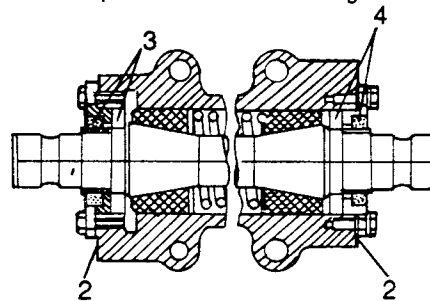

Fig L5.16
- (13) Refer to Fig L5.16. Smear general purpose grease on both sides of the joint washers (2) and fit one to each end of the housing.
- (14) Fit the thrust washer and end cover (3) complete with seal to the bottom end of the housing only. Use 'Wellseal' or a suitable equivalent sealing compound on the threads of the bolt fitted to the breather hole.
- (15) Fill the housing with the correct grade of oil.
- (16) Fit the thrust washer and end cover (4), complete with seal to the top of the housing, using sealing compound on the threads of the four securing bolts.